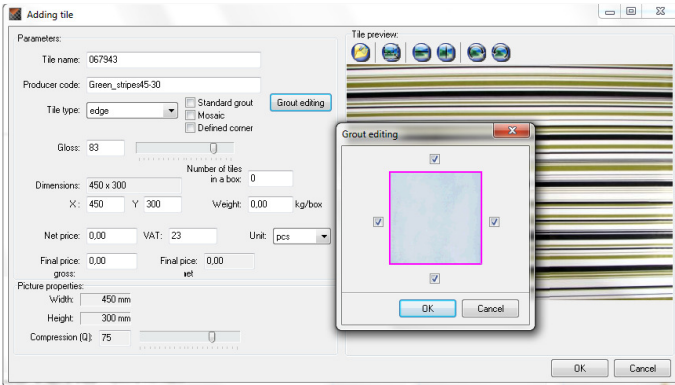
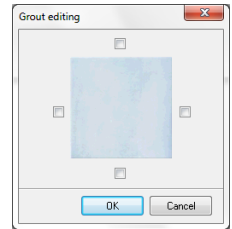

Fig. 386 – grout edition – this tile will have a grout
Fig. 387 – this tile will be applied in the project without a grout
- **standard grout** - by default added around the tile; if this option is deselected, the button **Grout edition** becomes active and a new little dialog can be opened, in which the grout can be removed (Fig. 386) – it is necessary to deselect ALL edges (Fig. 387) – if only 1, 2 or 3 edges are deselected, the grout will be still added around a tile while applying tiles in the project;